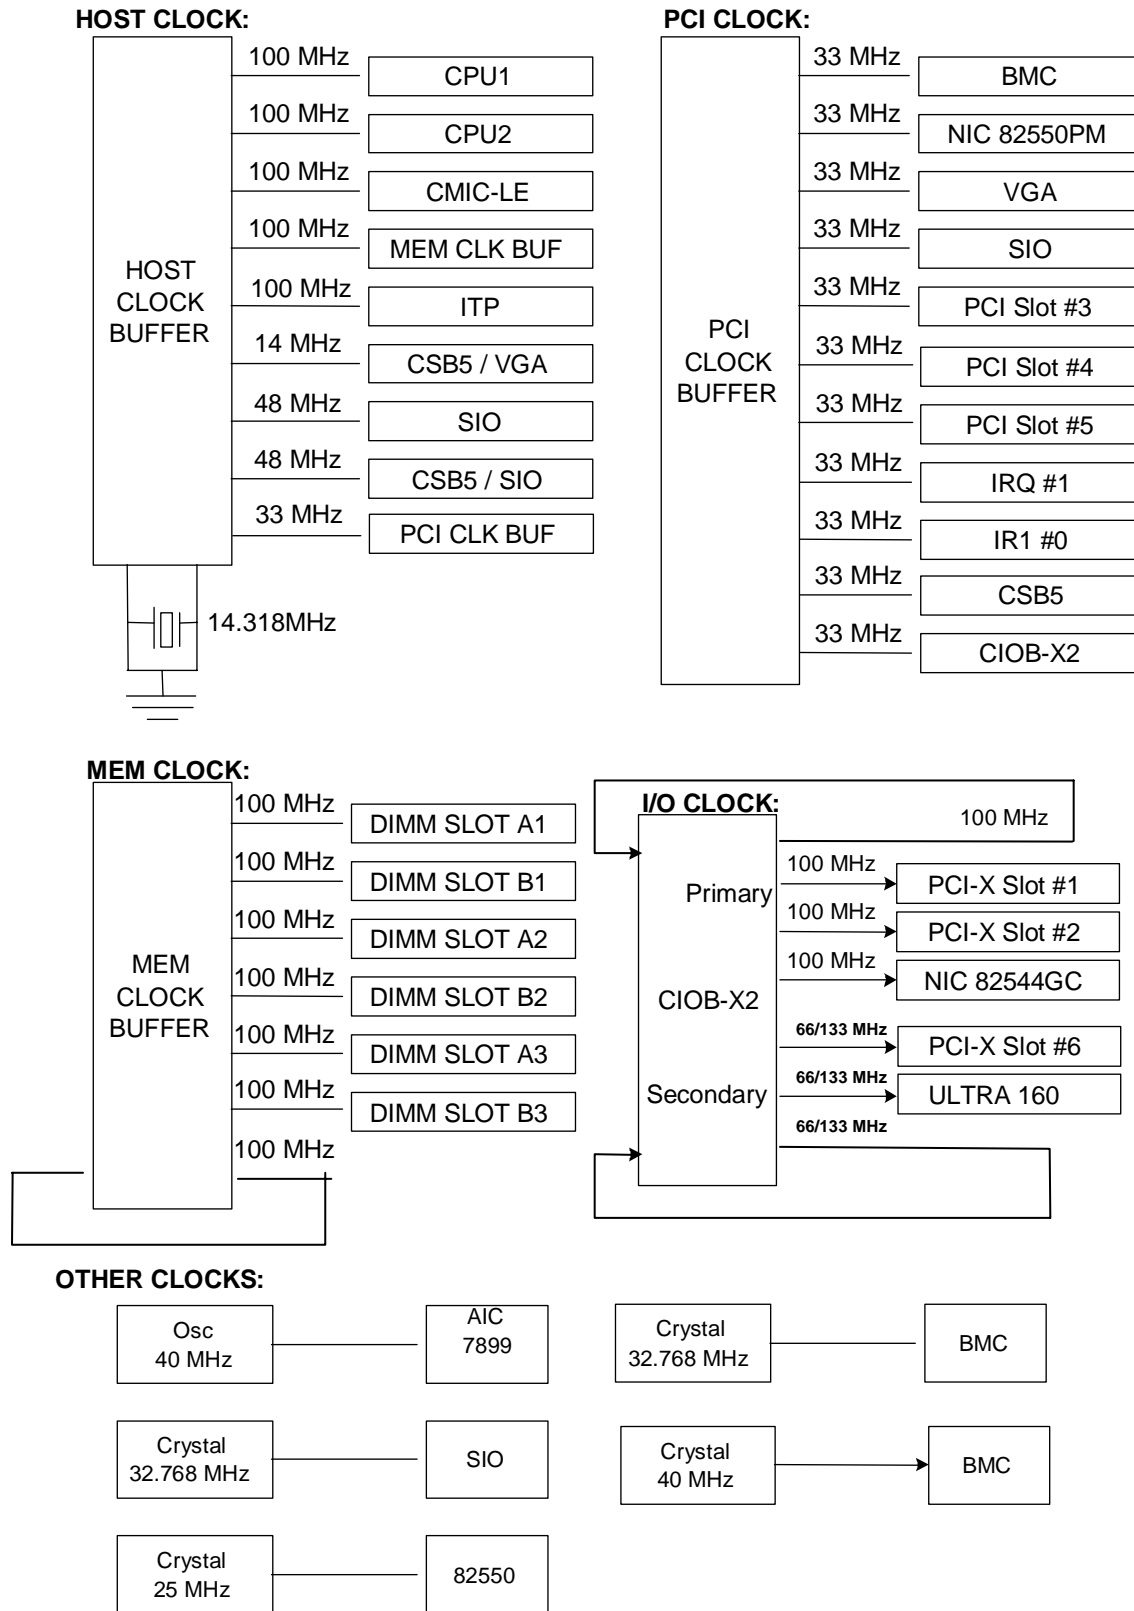

Figure 6. SHG2 Baseboard Clock Distribution
*Figure 6* illustrates clock generation and distribution on the SHG2 baseboard.